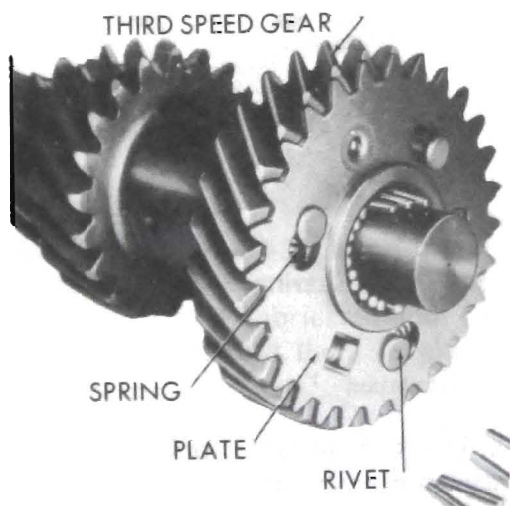

Figure 72-329 Anti-Rattle Gear
2. Check for broken anti-rattle gear springs. See Figure 72-329.